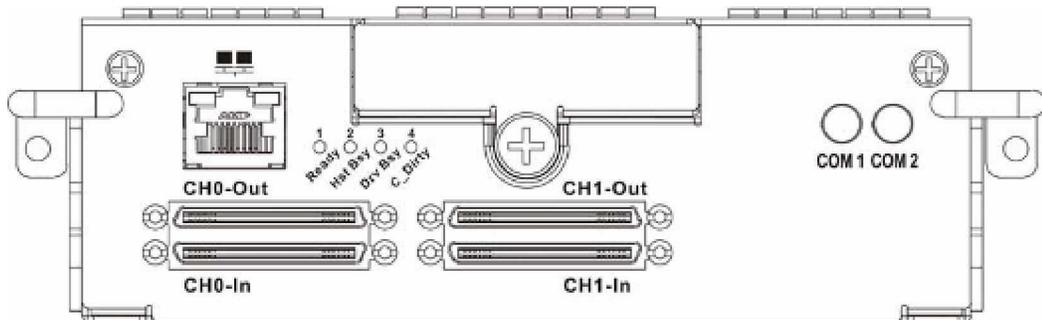

Figure 1-8: RAID Controller Module Faceplate
The controller module faceplate is shown in *Figure 1-8* and has four (4) VHDCI ports (labeled **CH0-Out**, **CH0-In**, **CH1-Out**, and **CH1-In**); two (2) RS-232C (audio jack) serial ports (labeled **COM1** and **COM2**); one (1) RJ-45 Ethernet connector and four (4) status-indicating LEDs (labeled from **1** to **4**). The controller board is contained within a metal canister and can only be seen after the controller module has been removed from the subsystem enclosure. The controller canister has two (2) ejector levers that secure the controller module to the subsystem chassis. These levers are, in turn, secured to the enclosure chassis with two (2) retention screws.